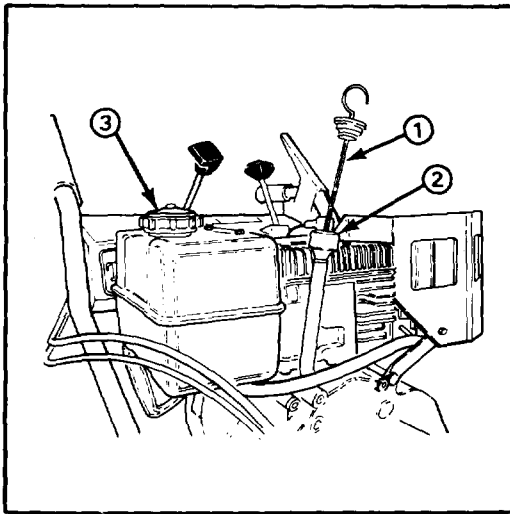

Figure 8
FILL CRANKCASE WITH OIL (Fig. 8)
1. Clean area around the fuel tank cap (Fig. 8). Remove cap from fuel tank and fill tank to within 1/2" (13 mm) from the top with unleaded regular gasoline. Reinstall fuel tank cap. Fuel tank capacity is 4 quarts.